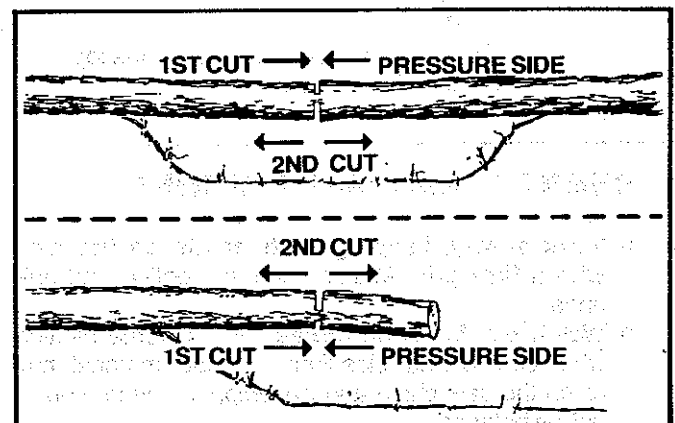

Figure 23
- d. Give special attention to logs under strain to prevent the saw from pinching. Make the first cut on the pressure side to relieve the stress on the log. Figure 23.